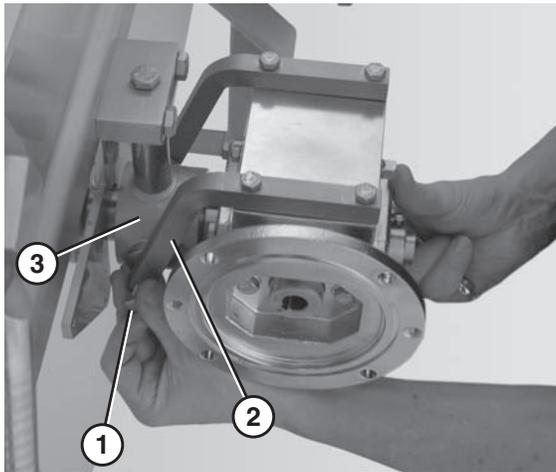

Figure 65
10. Remove the bolts (**Figure 65, item 1**) that connect the bent bars (**Figure 65, item 2**) to the drive mounting bracket (**Figure 65, item 3**).